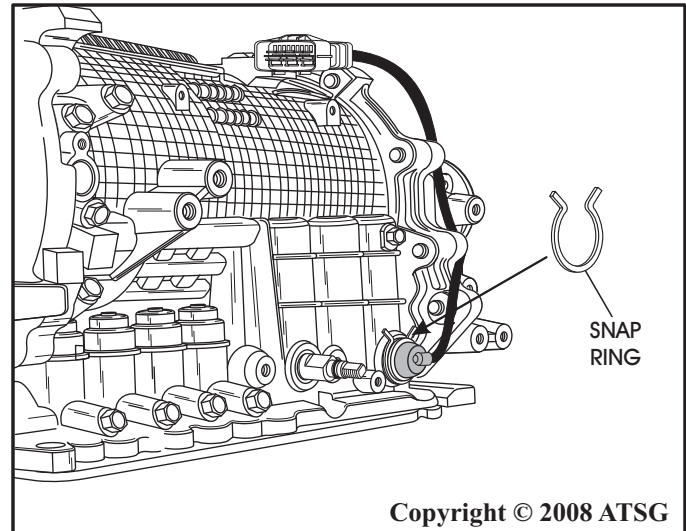

Figure 37
11. Remove the external snap ring from pass-thru connector as shown in Figure 37.